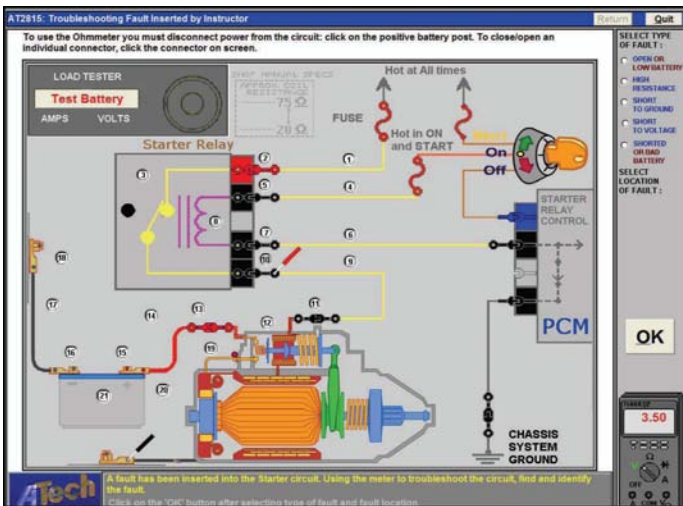

Figure 4
The same points measured in figure 4 on the closed part of the chatter cycle indicates a voltage drop of 3.50 volts indicating current flow through the branch.
3. Perform the same calculations with the voltage measured in figure 4.